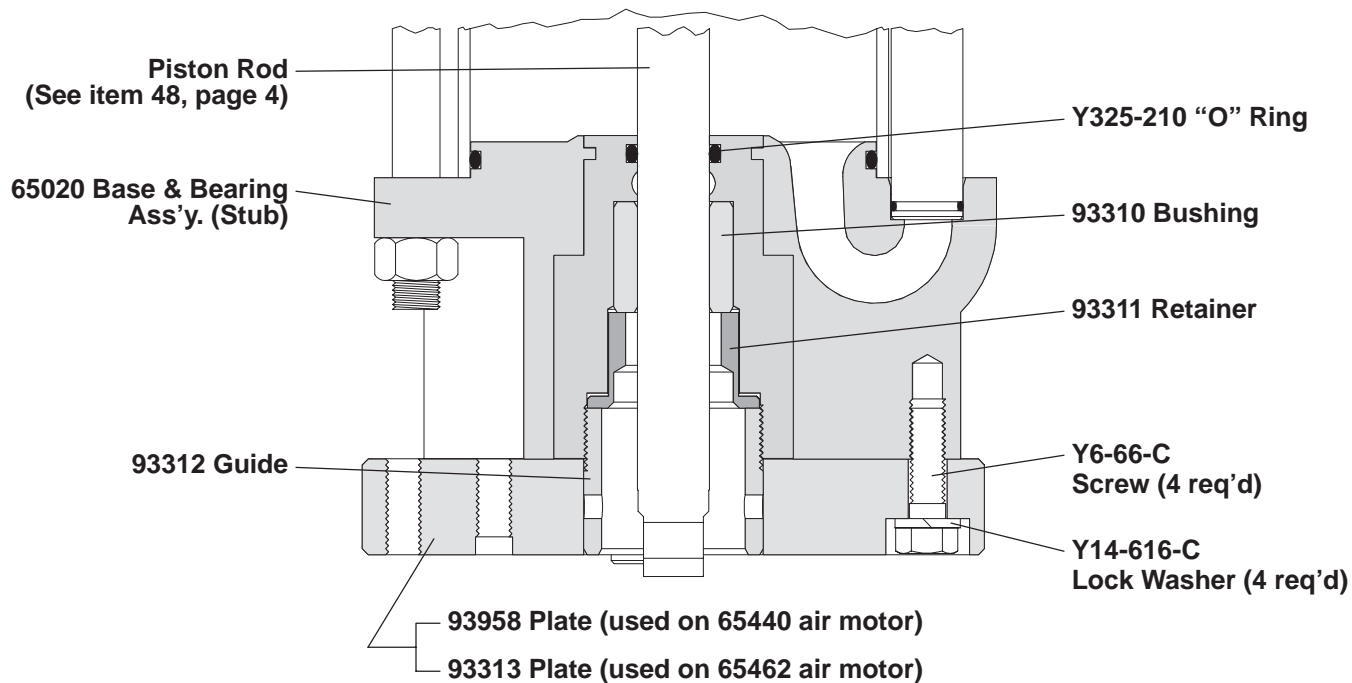

**FIGURE 9**
32. Push the assembled (38) adapter and (31) valve piston down thru the 90350 special installation tool until it bottoms.
34. Install (33) gland assembly over the (31) valve piston and push down, being careful to retain (34) seal in the "O" ring groove.
35. Align the two screw holes and secure (33) gland assembly to (19) head assembly with two (6) screws and two (7) lock washers.
36. Insert (13) insert spring assembly into the (19) head assembly, with the hooks down and the nylon roller toward (31) valve piston.
37. Apply grease to both (11 and 14) inserts and place them in position (see figure 9) with legs of insert toward (31) valve piston and the larger, (14) insert, located in front of the larger diameter nylon roller. Also, the nylon roller on the (13) insert spring assembly should be between the legs of both (11 and 14) inserts.
38. Apply grease to gasket side of (12) valve plate and put (15) gasket on (12) valve plate. To determine the correct side, the screw holes nearest the top and bottom of (12) valve plate are toward the exhaust port on the (19) head assembly. Also, the (12a) roll pins in (12) valve plate are at the top.
39. Hold the (11 and 14) inserts against the (31) valve piston and slide the (15) gasket and (12) valve plate between the two inserts and (19) head assembly. Be sure the larger holes in the (12) valve plate are located in front of the larger or (14) insert. Also, be sure the pins are located at the top of the valve plate.
40. Hook the round coil in (13) insert spring assembly over the (12a) roll pins (see figure 9).
41. Hook the bottoms of the (13) insert spring assembly into the holes on the side of (12) valve plate (see figure 9).
42. Insert (9) valve guide against the face of (12) valve plate. The legs of (9) valve guide should be down, with the leg having the threaded hole nearest the bottom located nearest the exhaust port of the (19) head assembly.
43. Place (5) washer on each of the four (4) screws and insert into the provided holes and tighten evenly across the corners. NOTE: To ease the alignment of the holes, an "O" ring pick is helpful.
44. Install (10) gasket in (8) air motor cap and secure with six (3) screws.
45. Place (2) deflector on the exhaust port of (19) head assembly, with the opening down, and secure with four (1) screws.